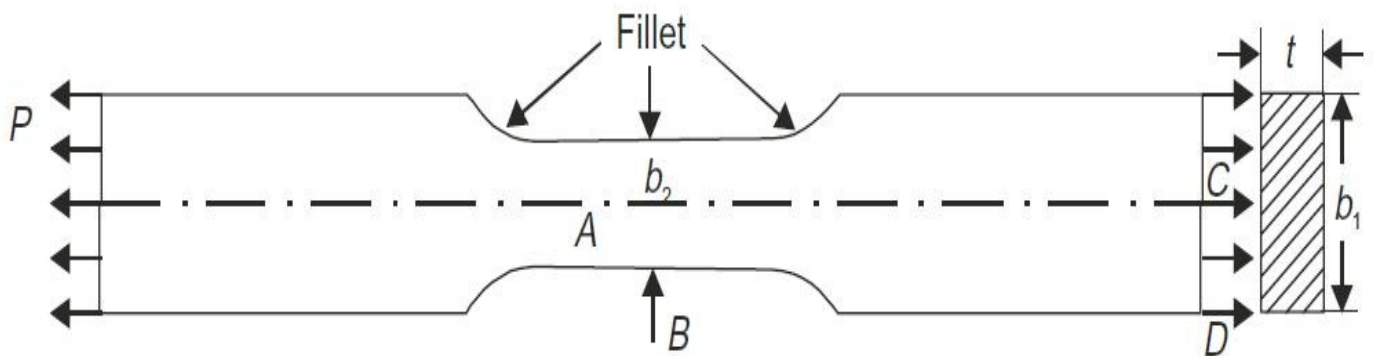
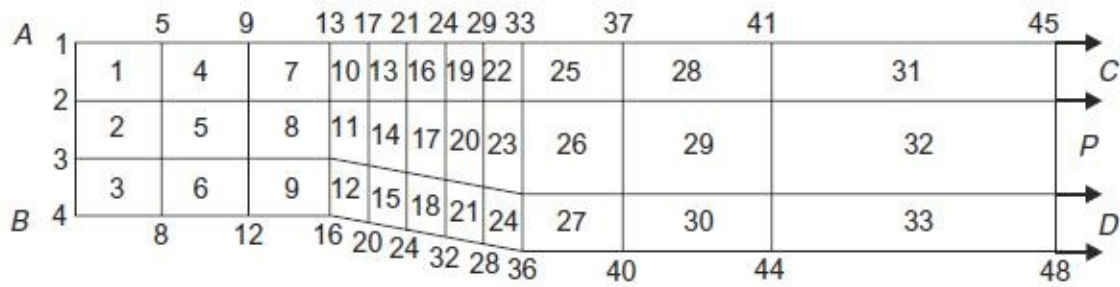

Fig. 1.1 Typical tension flat
Fig. 1.2 Discretisation of quarter of tension flat
tension strip with fillets (refer Fig.1.1). In this problem stress concentration is to be studied in the fillet zone. Since the problem is having symmetry about both x and y axes, only one quarter of the tension strip may be considered as shown in Fig.1.2. About the symmetric axes, transverse displacements of all nodes are to be made zero. The various steps involved in the finite element analysis of this problem are discussed below:
Step 2: The portion to be analysed is to be discretised. Fig. 1.2 shows discretised portion. For this 33 elements have been used. There are 48 nodes. At each node unknowns are x and y components of displacements. Hence in this problem total unknowns (displacements) to be determined are $48 \times 2 = 96$.